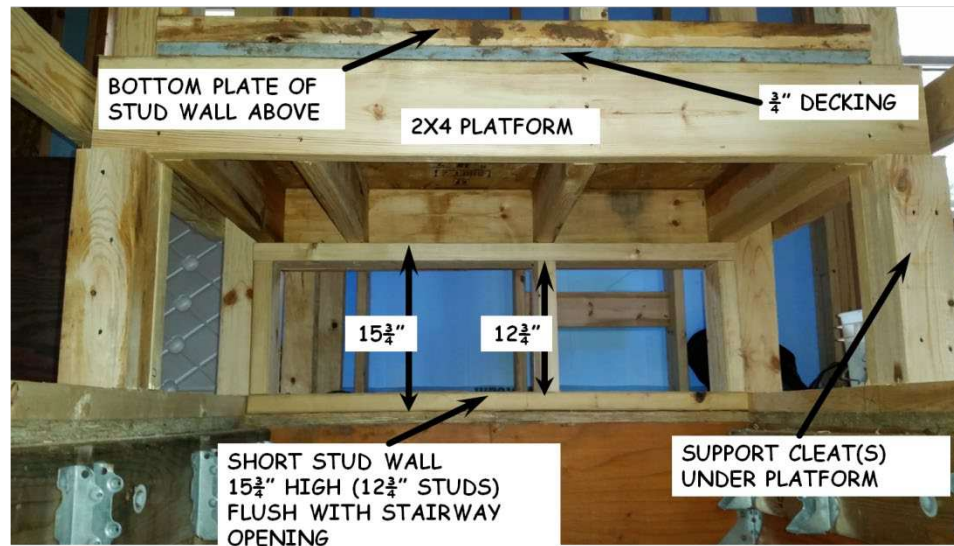
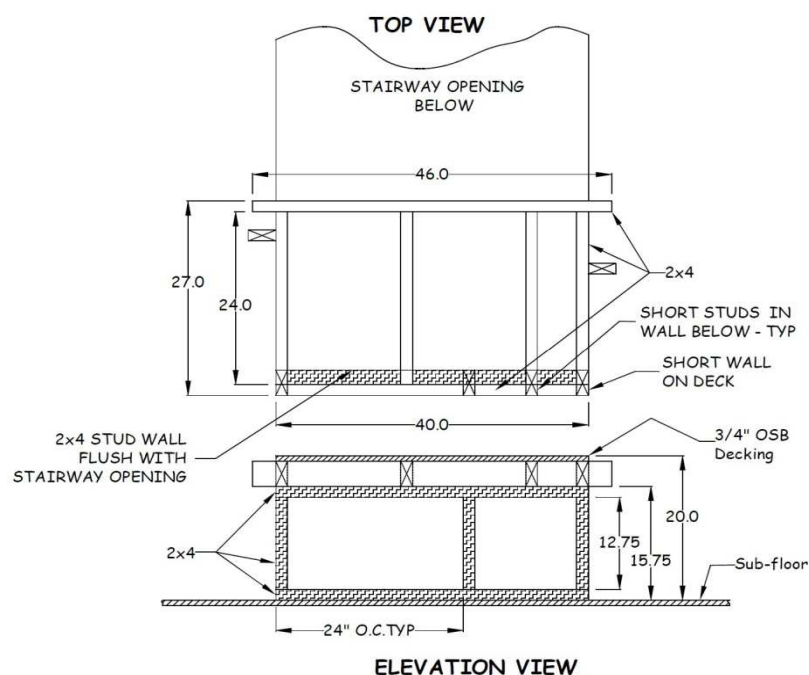

Figure 6-12. Closet Platform.
Figure 6-13. Platform for Closet Over Stairway.
4. Build a 27”x40” platform with 2x4 joists (16” o.c.) and ¾” OSB decking as shown in Figure 6-12. The stairway opening is typically 40” wide. Adjust the platform width as necessary to fit between the walls. The 2x4 that bridges the stairway opening on the cantilevered end should be 46” long so that it can be firmly supported with blocking or a stud inside the adjoining walls. Check the location of the wall studs to be sure that the 2x4 will not interfere on either side (see Figure 6-13). Once the platform is in place, with one end sitting on the short, 2x4 stud wall at the end of the opening, the other end will extend 24” over the opening. Adjust if necessary so long as the platform does not extend more than 24”.